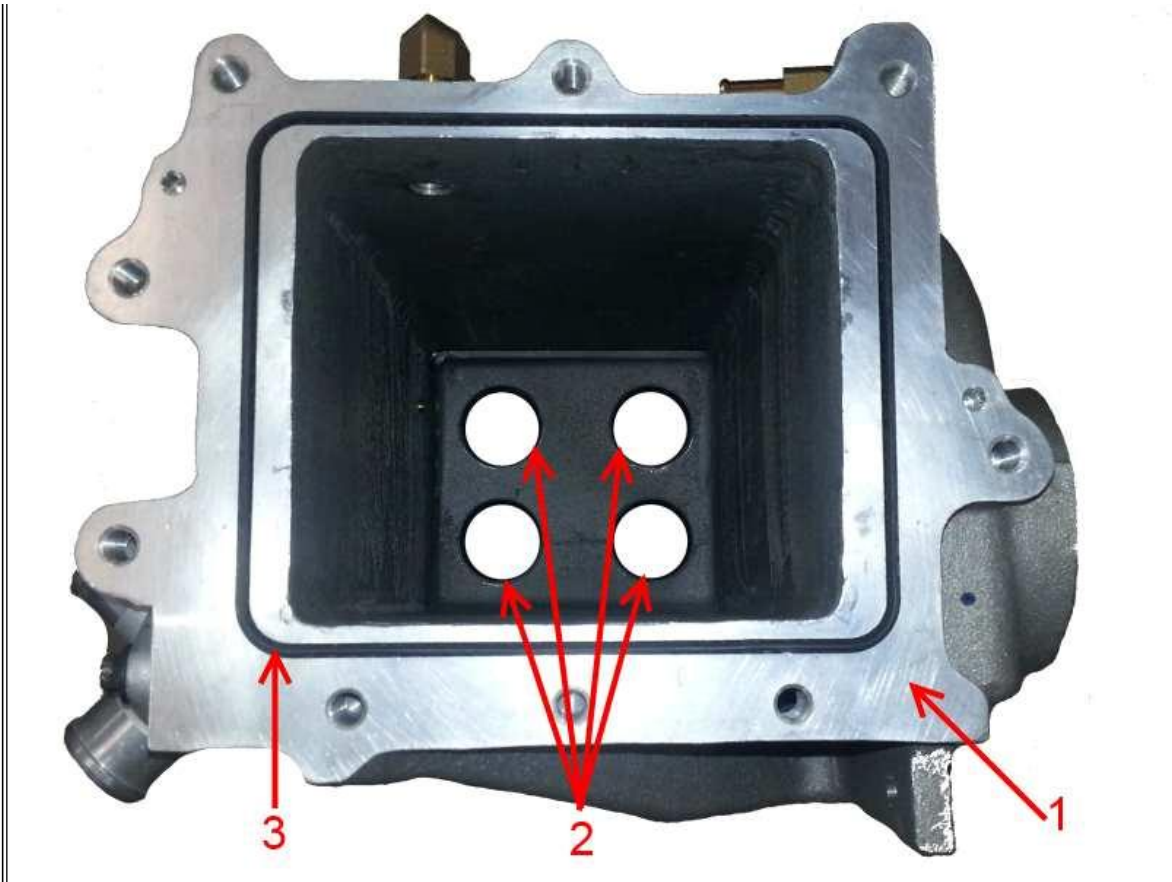

Figure 16: Low Temp Cooler Housing Face
34. Remove the housing seal and discard (**Figure 16**, Item 3)
35. Use a seal pick to remove the four o-rings at the housing inlet and discard (**Figure 16**, Item 2).